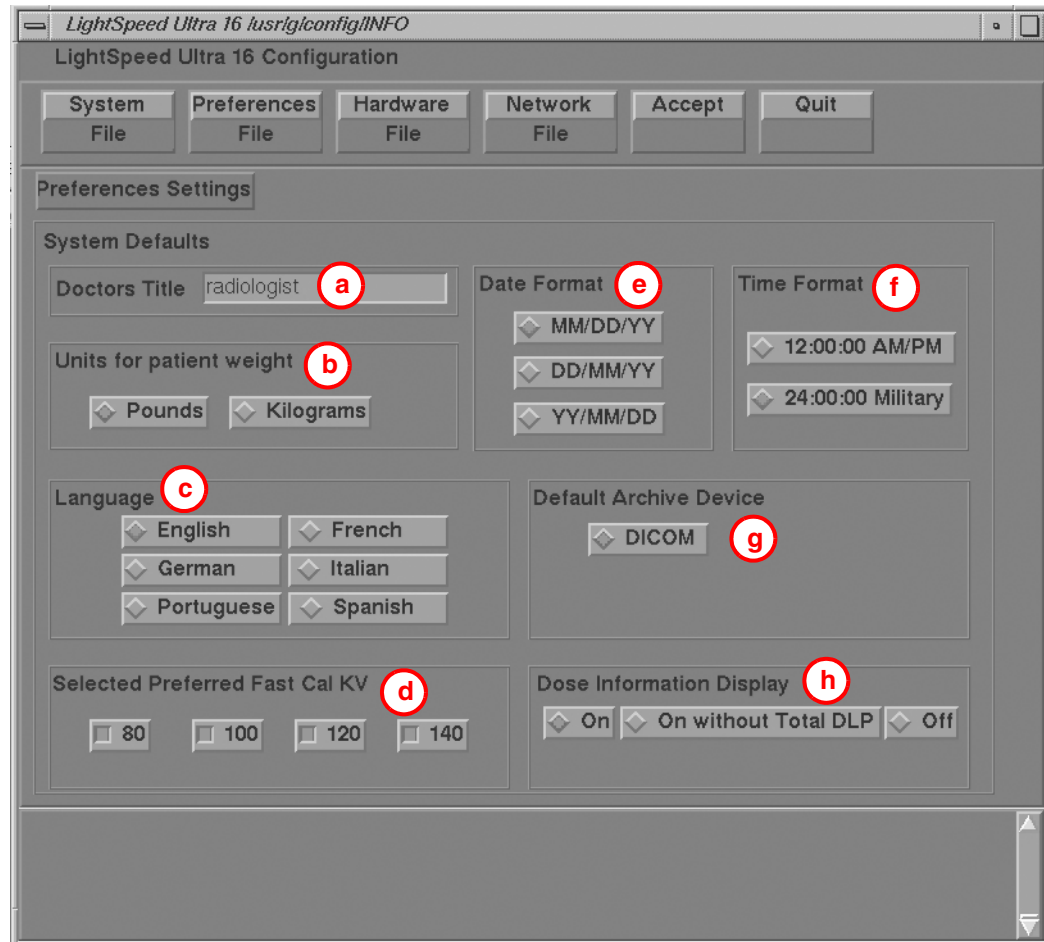

Figure 2-12 Preferences Setup Screen
- 5.) Select the PREFERENCES button to display the Preference Settings Screen as shown in Figure 2-12.
- 6.) Regenerate Database (refer to Figure 2-12) determines whether the Scan Database will be regenerated during reconfiguration. You should select NO.